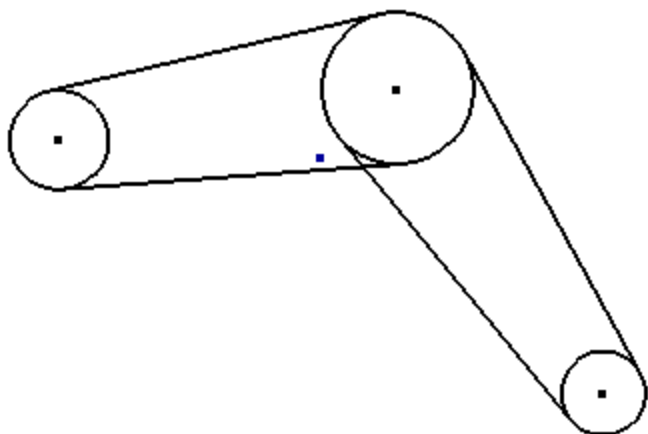

Figure 5: Additional tangent lines.
3. Use the same technique to add three additional tangent lines as shown in Figure 5.